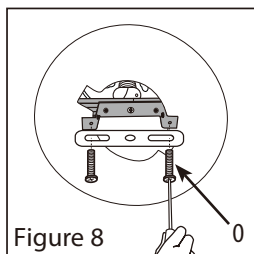

Figure 8
9. Install your lighting fixture's mounting bar (Q) (Not included, it comes with the lighting fixture purchased separately) on mounting bracket (F) with two 1/2" long fixture screws (O) (included) (Figure 8). Follow the installation instructions included with your luminaire to mount onto the recess can converter kit.